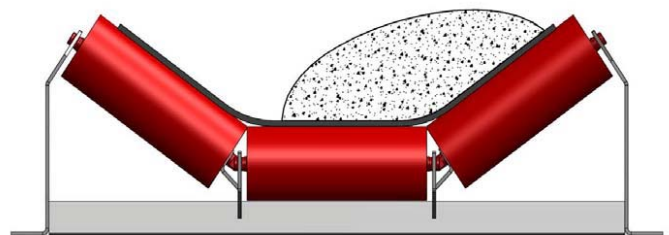

Figure 1.8 (above)
- Asymmetric loading such as the one below in figure 1.8, of the transfer point is one of the most difficult causes of belt tracking issues to address, and causes the most problems. Belt tracking devices are a must in this case as dry and wet running will not be cared for by manual idler adjustment.